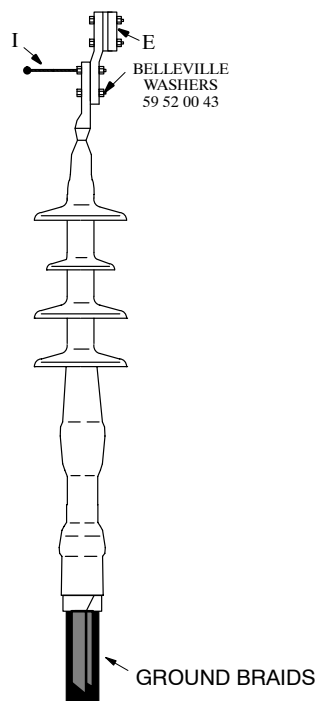

FIGURE 7A
10. For outdoor installations, attach a bronze four bolt lug to the compression lug or shearhead bolt lug using a ground stud in the upper hole and a 1/2" x 2" bolt in the lower hole. See Figure 7A.